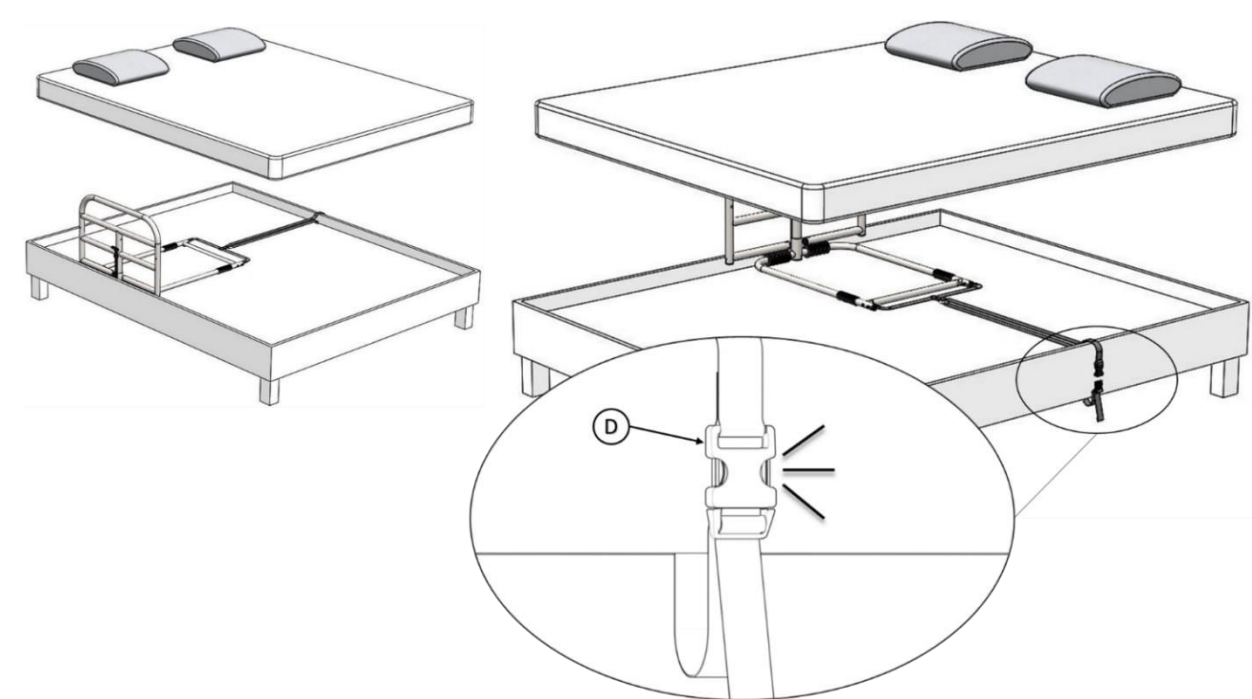

FIGURE 4
4. Loop **SAFETY STRAP (D)** around bed frame, re-buckle and tighten **SAFETY STRAP** to secure Bedrail product against side of the mattress as shown in *FIGURE 4*.